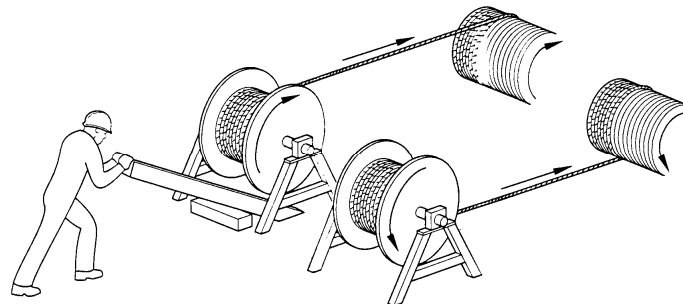
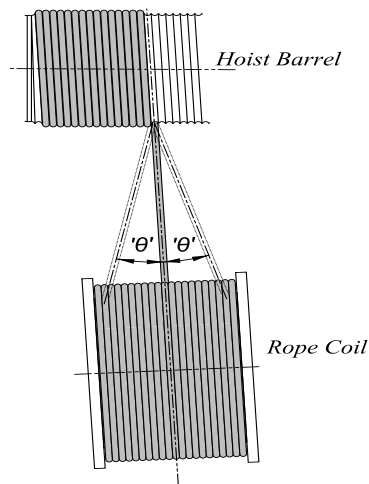

Figure 60 – Winding of new wire ropes
Figure 61 – Fleet angle
If it is not possible to uncoil the rope prior to fitting, the rope may be transferred directly from the reel to the hoist barrel. Place the reel on a suitable stand and ensure that the reel can rotate freely. When winding from reel to barrel the rope should be bent in the same direction. Wind from top of reel to top of barrel or from bottom of reel to bottom of barrel (see Figure 60).
- Transfer the new rope onto the hoist barrel. Ensure that sufficient tension is applied to the reel to prevent loops from forming. Tension can be applied with suitably gloved hands or with a brake on the reel (see Figure 60). During installation, also ensure that the fleet angle ' $\theta$ ' does not exceed  $1\frac{1}{2}^\circ$ , (see Figure 61).